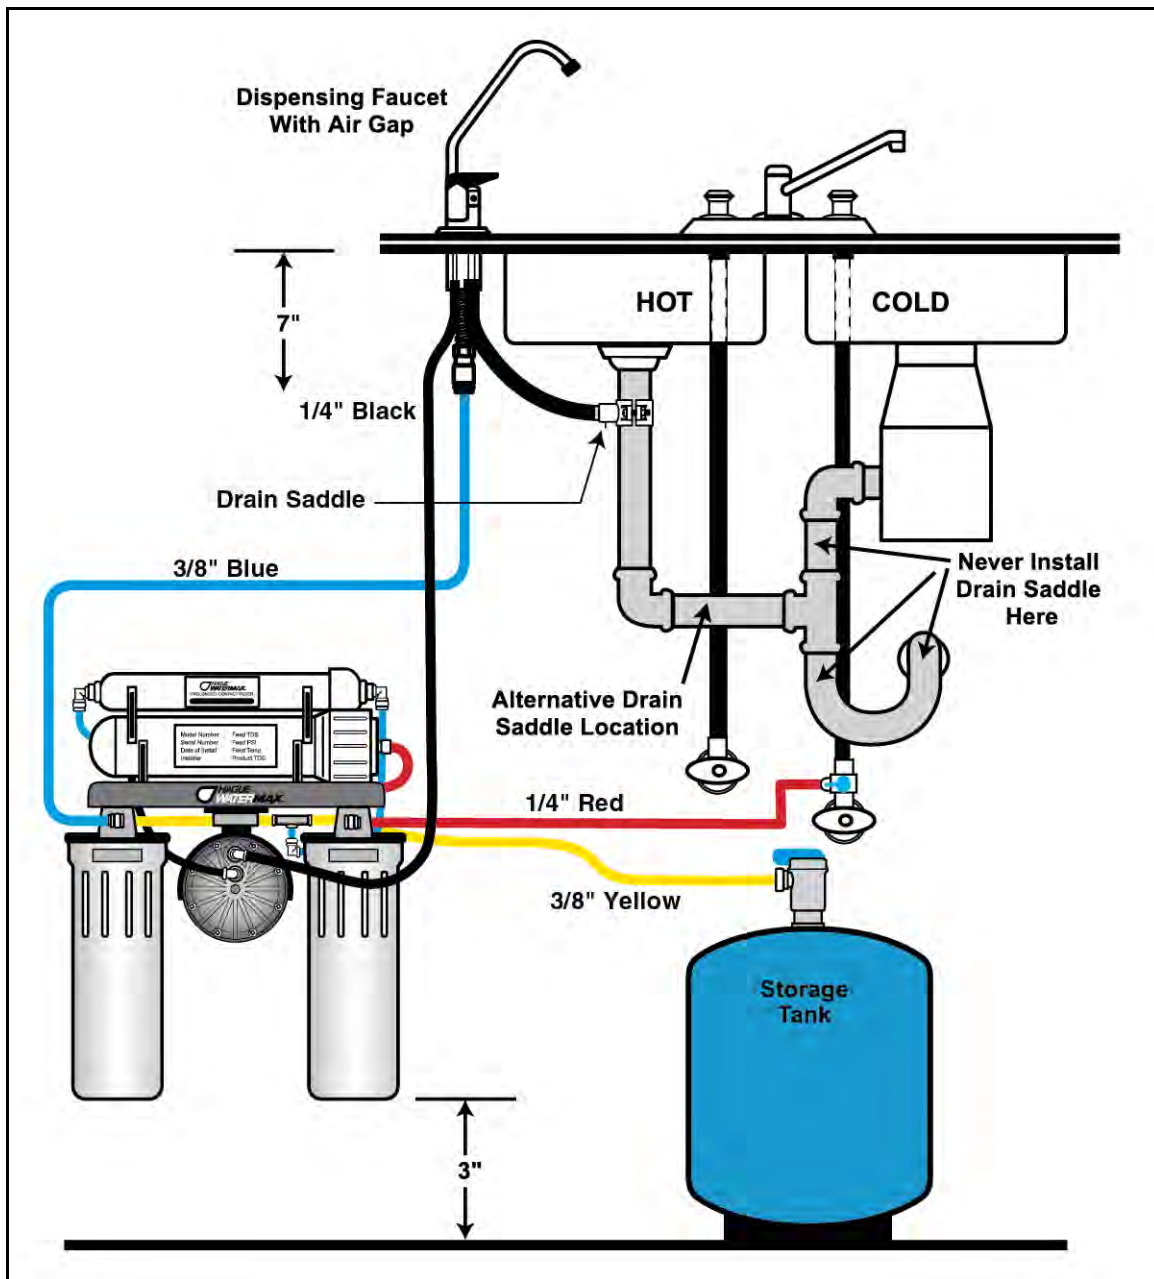

Figure 2: Installation Diagram
Study the overall installation diagram (See Figure 2) before proceeding, to familiarize yourself with the general layout of the appliance.
- B. Using the diagram in Figure 2, from under the sink, feed the pre-connected 1/4-inch black tube and the pre-connected 3/8-inch blue tube from the RO assembly through the hole in the sink. Remove the red locking clip from the spigot adapter, slip the blue tube into the spigot adapter, and replace the red locking clip. Slip the 1/4-inch black tube onto the small hose barb on the base of the spigot.
- D. Cut the 3/8-inch black tube to desired length and connect to the drain saddle with the provided clip. (See Figure 2)